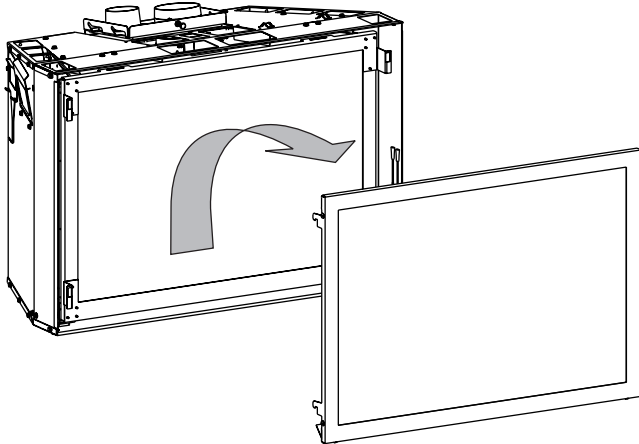

Figure 32
2. Use the Glass Latch Tool to grip the latch bar and pry it over the Glass Frame hook flanges. Tilt the Glass Frame towards you and pull upwards to remove it from the unit. **See Figures 32 and 33.**
- Check the barrier screen for fit and structural integrity. **See Figure 32.**